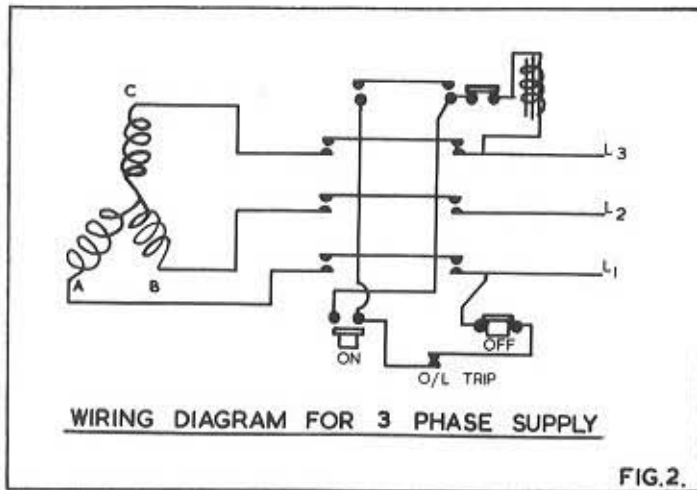
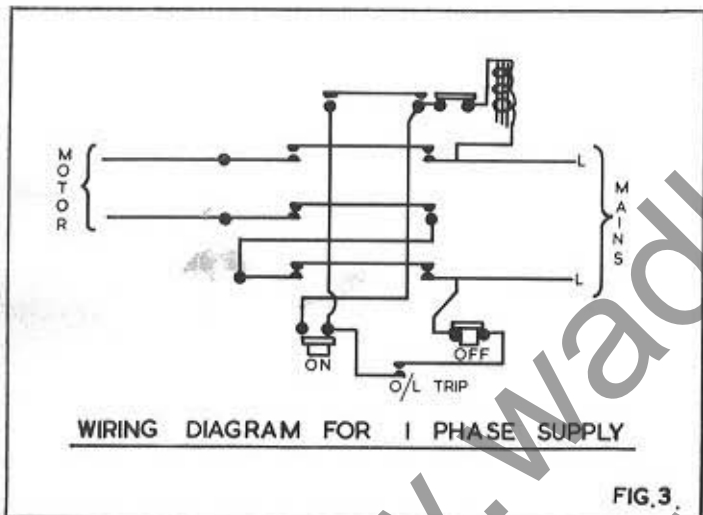

FIG.2.
FIG.3.
4. Connect the line leads to the appropriate terminals. See fig. 2 for 3 phase supply and fig. 3 for 1 phase supply.